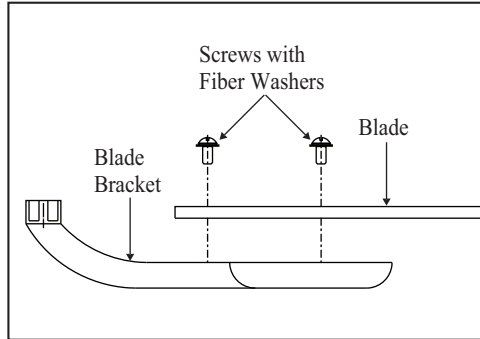

Figure 17
Step 1. Attach blades to blade arms using three screws with fiber washers. (Fig. 17) Start a screw into the blade arm, do not tighten. Repeat for the 2 remaining screws and washers.